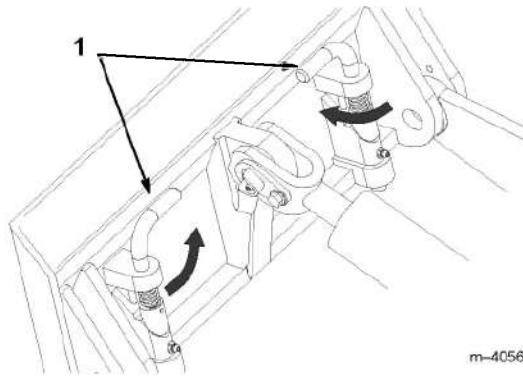

Figure 3
7. Engage the quick attach pins (Fig. 3).